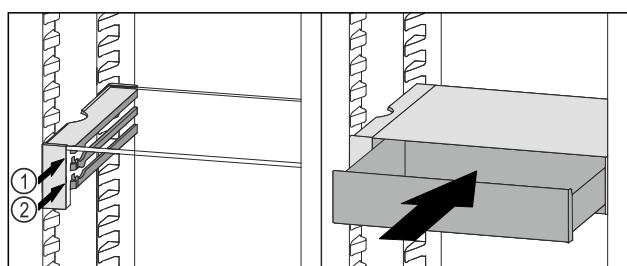

Fig. 101
- Place the VarioSafe drawer behind the stoppers on desired rib Fig. 101 (1) or Fig. 101 (2).